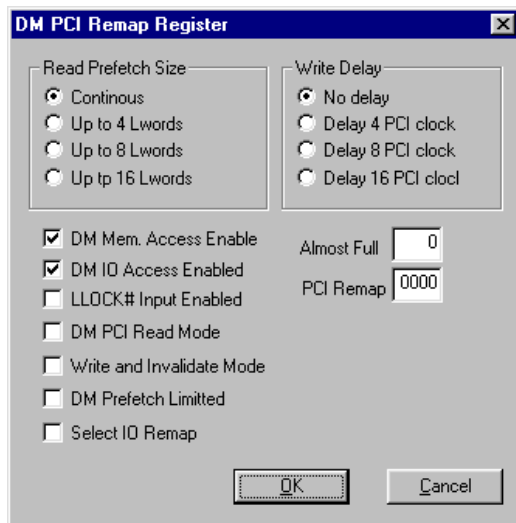

Figure A-6 Direct Master PCI Remap dialog box
The Direct Master (DM) PCI Remap dialog box provides information on the current value of the PCI Base Address (Remap) Register for Direct Master to PCI Memory and allows modification of that value (see Figure A-6).